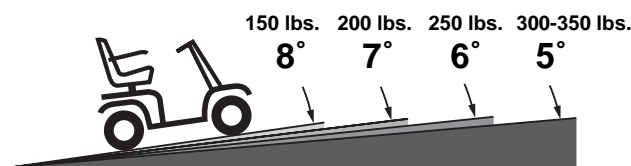

Figure 1. (3-wheel) Maximum Recommended Incline Angles
**WARNING! Even though your scooter is capable of climbing slopes greater than those illustrated in figures 1 and 1A, do not, under any circumstances, exceed the incline guidelines or any other specifications presented in this manual. Doing so could cause instability in your scooter, resulting in personal injury and/or damage to your Scooter.**
Handicap public access ramps are not subject to government regulation in all countries, and therefore do not necessarily share the same standard percent of slope. Other inclines may be natural or, if man-made, not designed specifically for scooters. Figures 1 and 1A illustrate your scooter's stability and its ability to climb grades under various weight loads and under controlled testing conditions.
**WARNING! Any attempt to climb or descend a slope steeper than what is shown in figures 1 and 1A may put your scooter in an unstable position and cause it to tip, resulting in personal injury.**